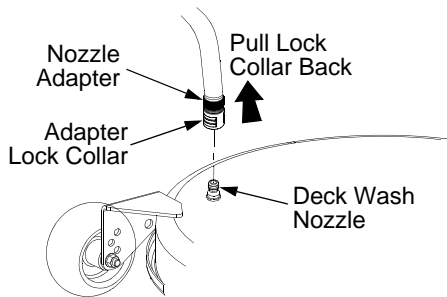

Figure 34
- Pull back the lock collar of the nozzle adapter and push the adapter onto the deck wash nozzle at the left end of the 42" mower deck, or onto one of the deck wash nozzles at either end of the 50" mower deck. Release the lock collar to lock the adapter on the nozzle. See Figure 34.